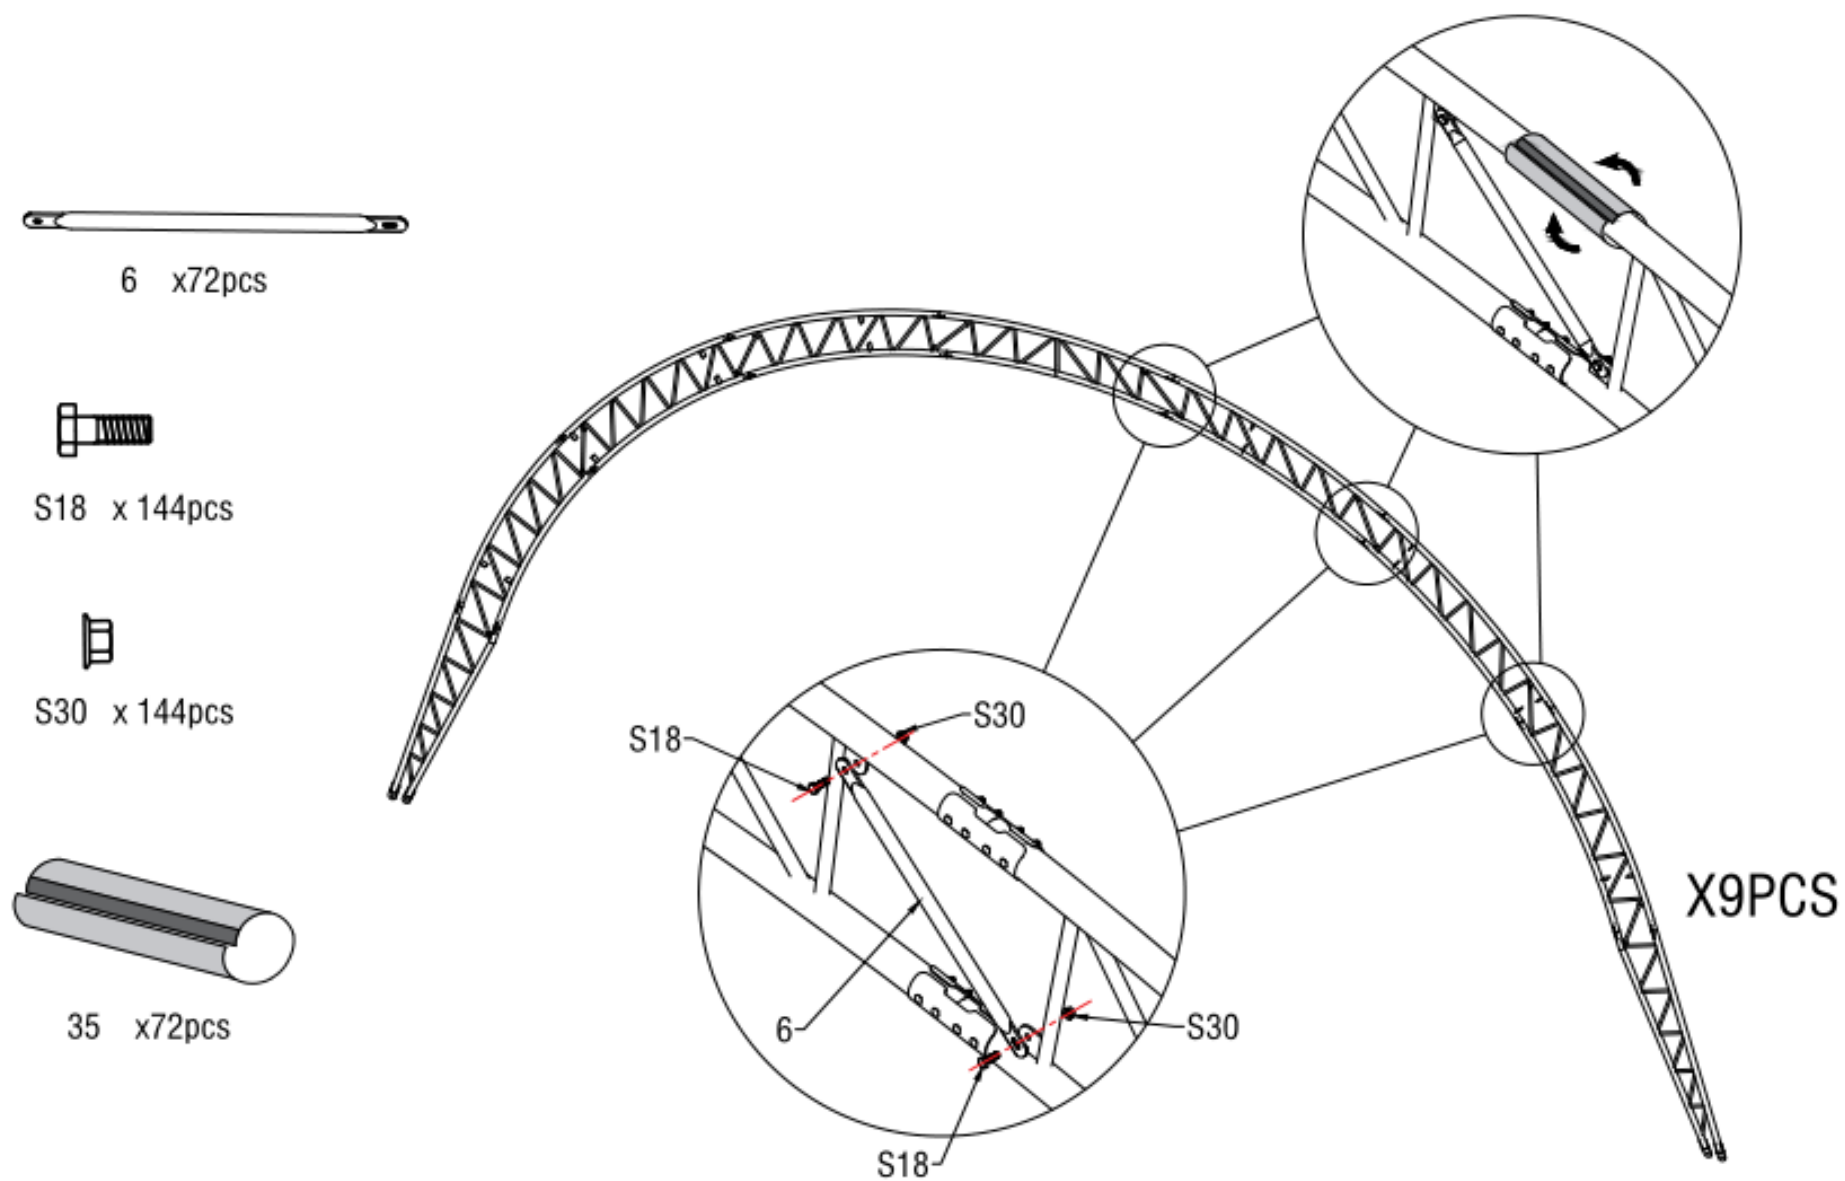

Figure 5
3. As figure 5 shown, use the Supporting Webbing between the arch(No.6) to connect the Top roof tube (No.1) with hexagon bolt 10*30mm (No. S18). Then put the PVC protective cover on the outer of connection of the arch to protect the roof cover from scratched by the outer joint. Assemble the rest of the other group double truss arch like this.